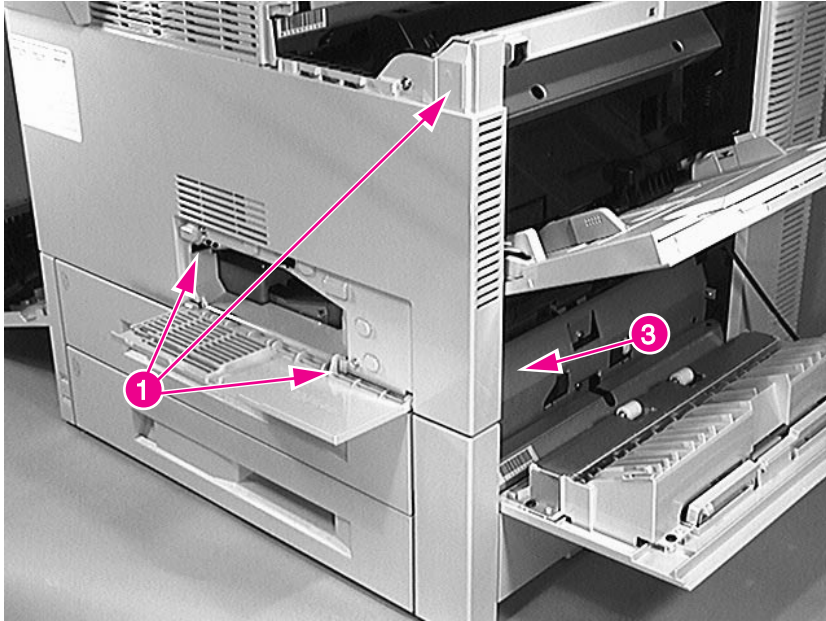

Figure 6-7 Front Cover (1 of 2)
- 2 Open the front access door, and remove 3 screws (figure 6-7, callout 1).
- 4 Carefully pull the bottom of the cover away from the chassis while moving it to the right to release the retaining tab (figure 6-7, callout 3).
- Front Cover (see figure 6-7 on page 220)